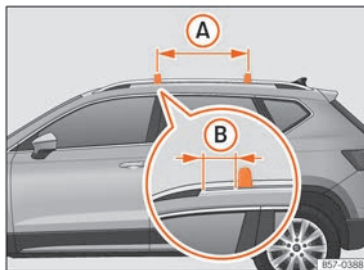

Fig. 129 Attachment points for the roof railings for the roof carrier system.
»» Fig. 129 (A) should be between 70 and 90 cm and the distance between the crossbars and the brackets of the roof railings (B) must be 15 cm.